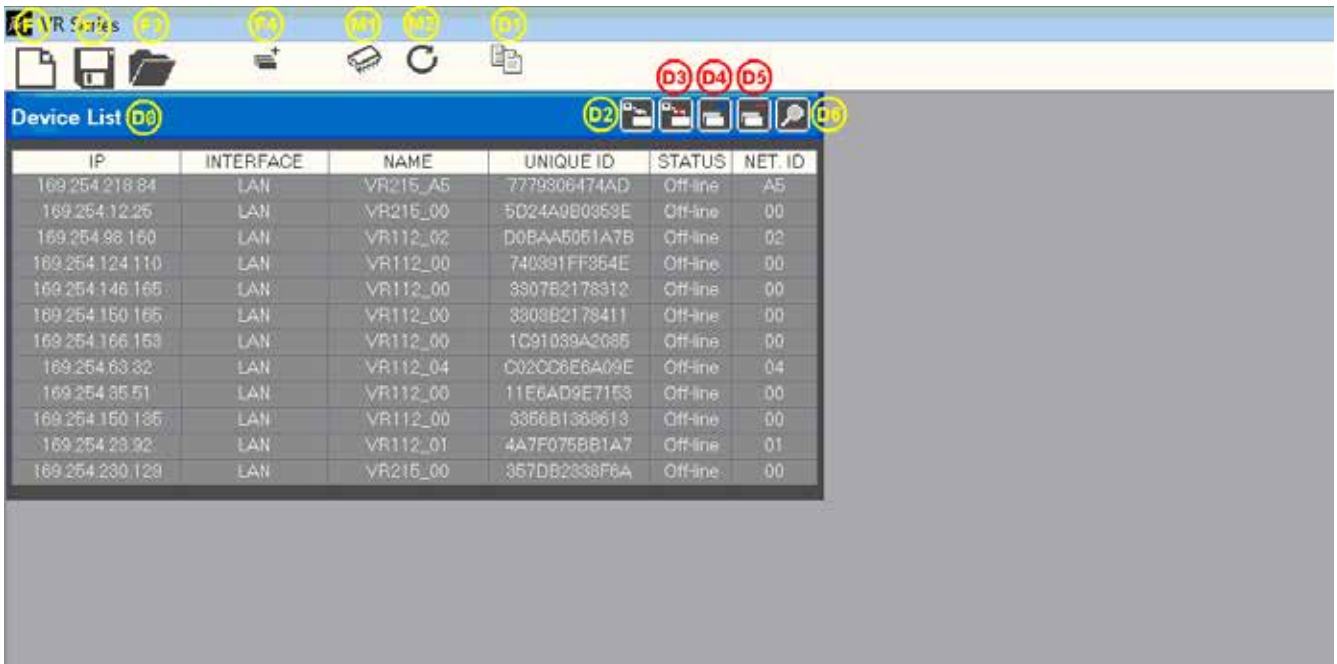

Fig. 2
3. The functions for this Start Window are contained within the block in the upper left hand corner, see close-up below in Fig. 2 with numbered functions, full descriptions to follow later. Note that the Device List Block (DØ) will not have any speaker systems loaded into it's window until you have connected with one or more different VR Pro series speaker systems via the software.